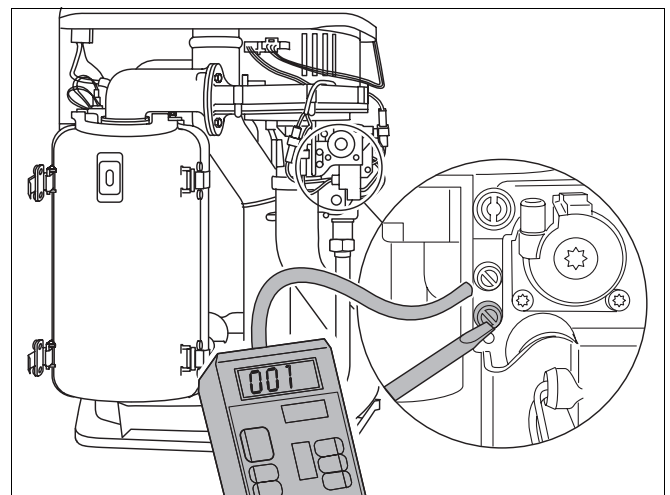

Fig. 22 Measure the gas connection pressure
- Loosen the screw plug on the gas test nipple (fig. 22) by two turns.
- Unscrew the sealing closure of the burner-pressure testing nipple by one turn (fig. 22).